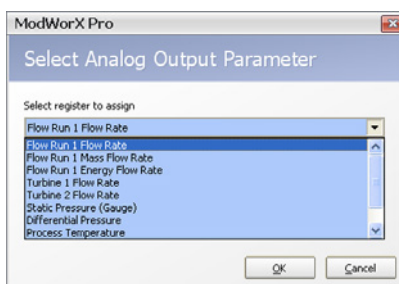

Figure 7.25
- Click **Select** to choose a parameter from the Select Analog Output Parameter dialog (Figure 7.25, page 103).